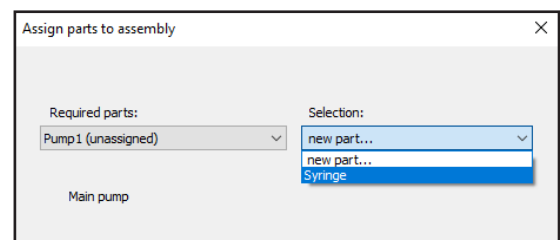

Fig. 8
- 8) Use the dropdown menu to select the proper pump, valve, and pressure sensor (Fig. 8).